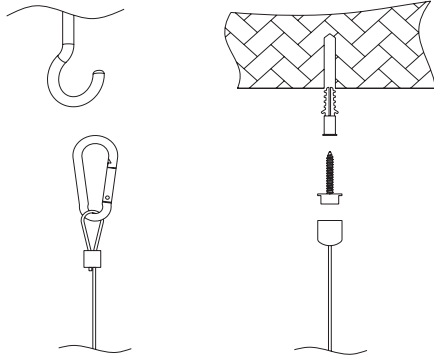

FIG. 7
① Affix the aircraft cables to the building's structure such as beam or ceiling with appropriate hardware (not supplied). Ensure the chosen hardware is appropriate for your mounting surface. (Figure 7)